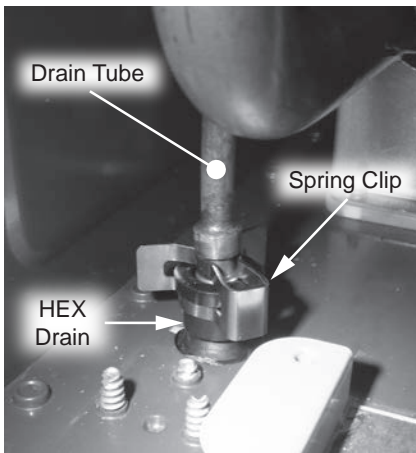

Figure 204 - Removing spring clip from HEX drain
- 18 Locate the new HEX drain and O-ring provided in the kit. Remove old O-ring from drain tube and install new O-ring as shown in Figure 204.